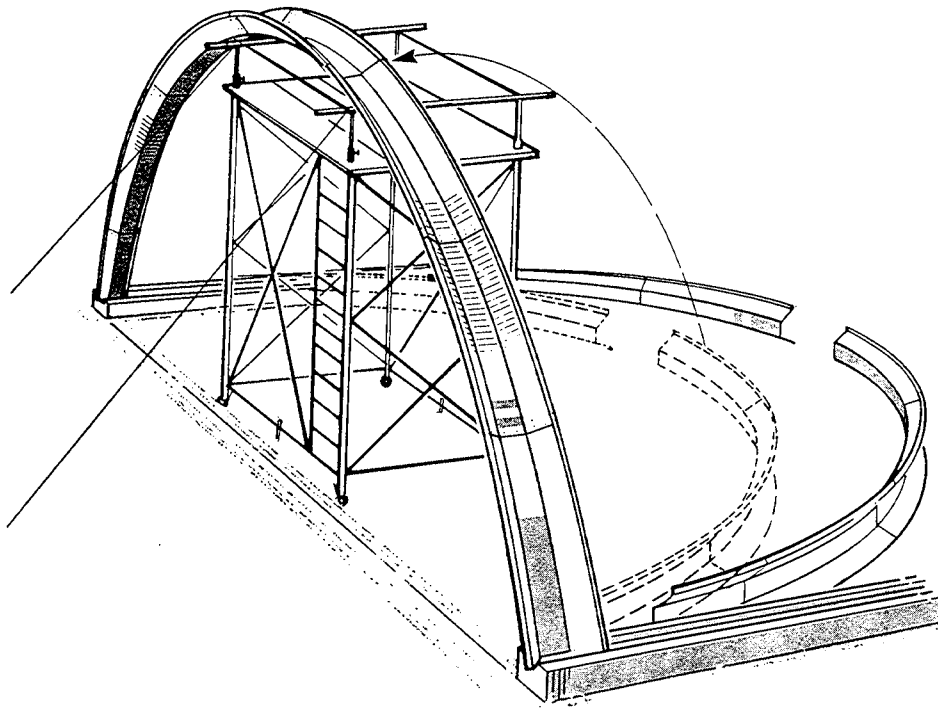

Fig.28
6. Now raise the second half of the arch in the same fashion, guide it into position (see fig.28) and bolt it to the first half.